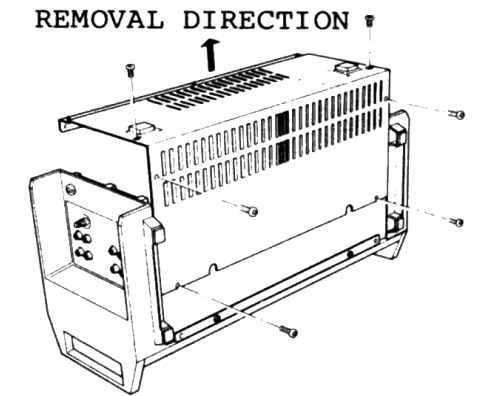

Fig.2
- 2) Remove 2 screws from the rear and four screws from the bottom as shown in Fig.2. [Screws: M4 x 14, six pieces]